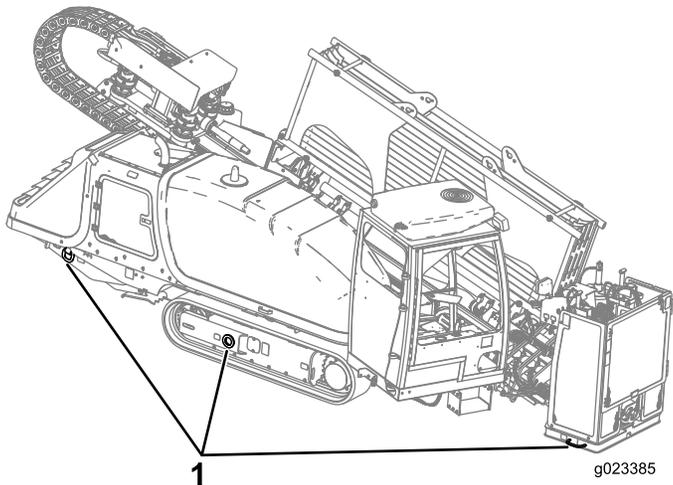

Figure 36
9. Use appropriately rated chains and binders to secure the rings on the left and right track frames and the stake-down plate to the trailer (Figure 36).